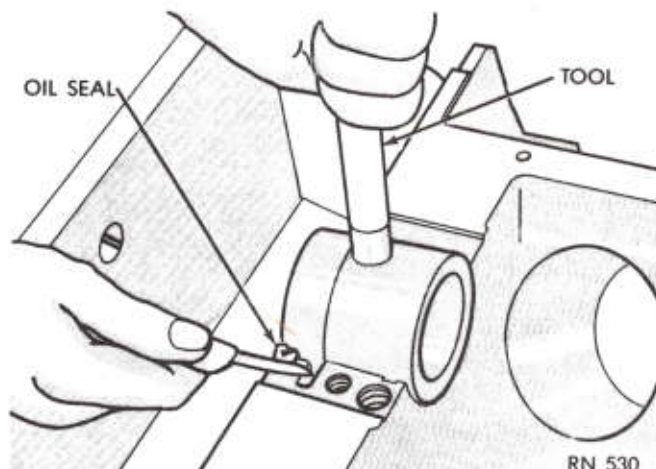

Fig. 50—Trimming Upper (or Lower) Oil Seal
- (3) Hold tool in this position and cut off the portion of seal that extends below the block (or cap) on both sides (Fig. 50).